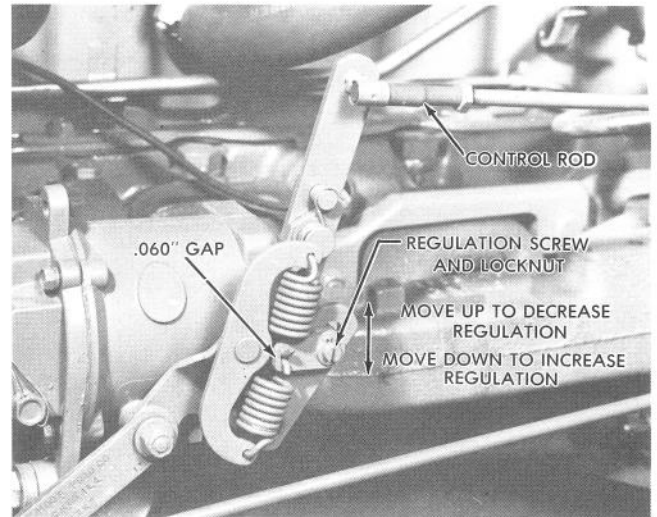

Figure 44
5. To stabilize the governor, eliminate hunting, or to increase the spread of RPM between no-load and full load, loosen the locknut on the regulation screw shown in Figure 44, turn the screw counterclockwise 1/8 turn, and tighten the locknut. Readjust hand throttle lever to obtain 1600 RPM. Repeat this procedure as required for proper engine operation.